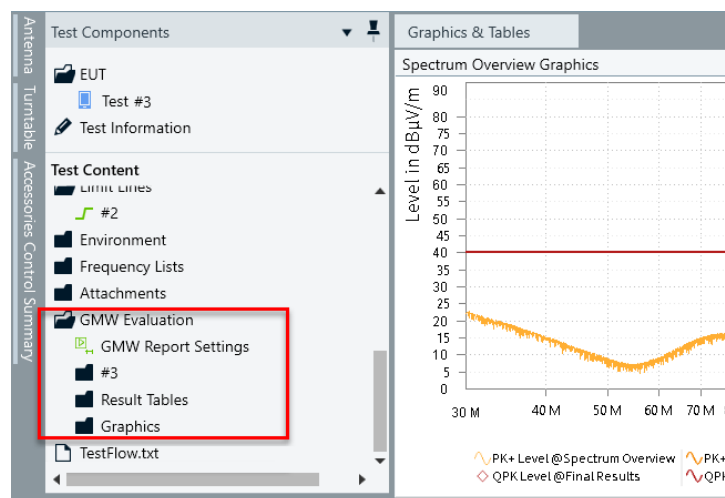

Figure 7-7: The GMW Evaluation section in the test container
- "GMW Evaluation" shows test content prepared for GMW reporting, see Figure 7-7